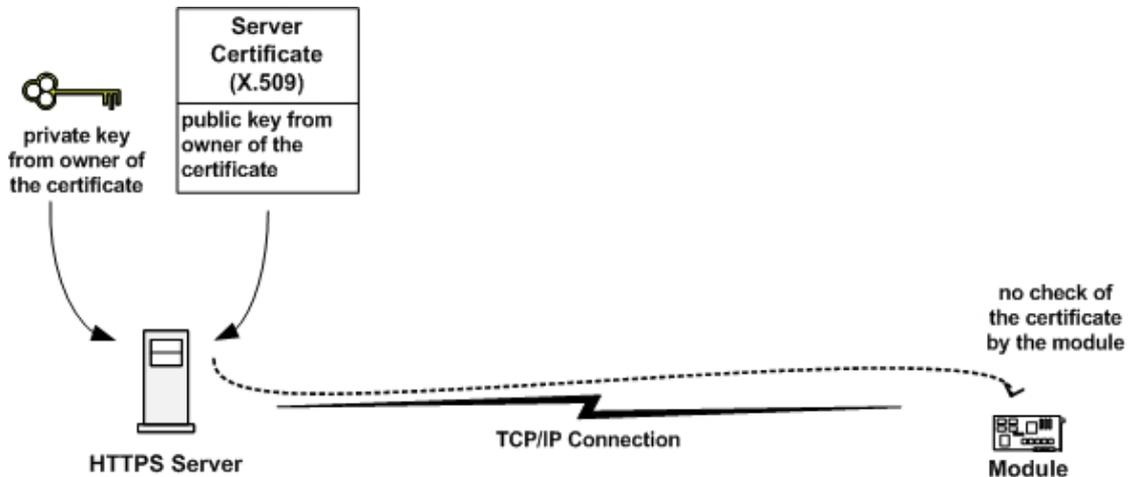

Figure 54: Mode 1 – Customer Root Certificate does not exist
- No examination of the server certificate takes place when setting up the connection. The authenticity of the server certificate is not verified. See Figure 54.